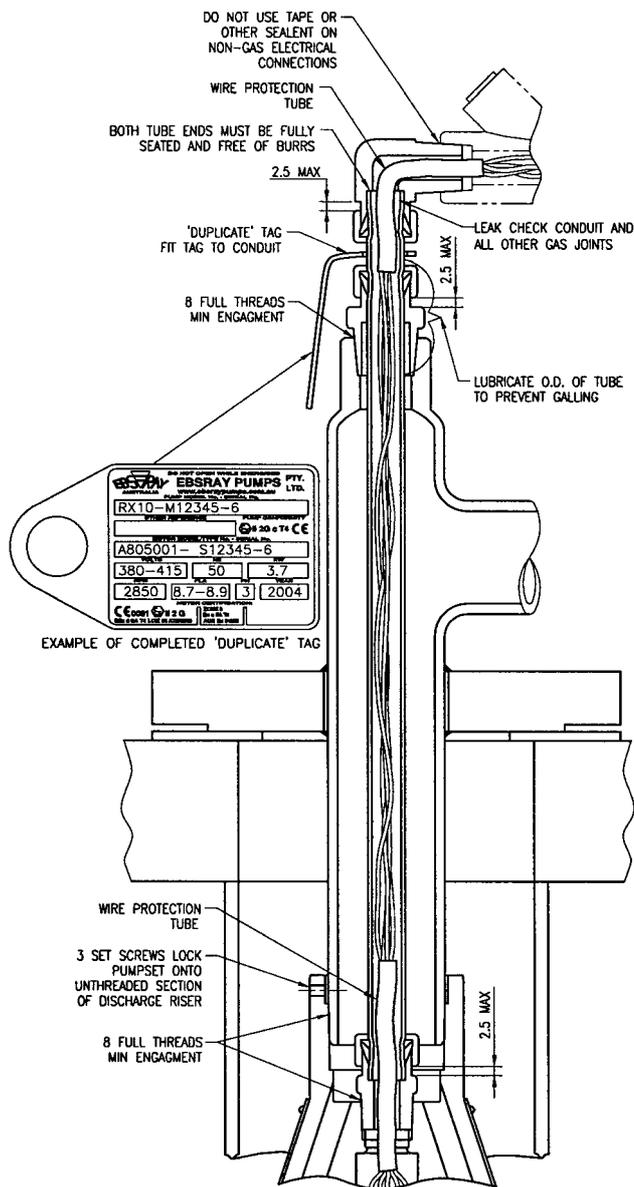

Figure 6
4. Fit conduit to compression tube fitting and tighten nut on fitting as shown in Figures 6 & 7 (2.5 mm hex key used as a no-go gauge which is approximately 1 3/4 turns after hand tight.) This connection **must** be gas-tight.
- b) Fit Differential Pressure Switch to Junction Box (For Junction Boxes which are not fitted with a 1/2" NPT(F) thread, use adaptor supplied) Take care when fitting to avoid damaging electrical leads.
- e) Fit 3/4" NPT compression tube fitting to 3/4"(F) NPT side of wiring seal.
20. Fit duplicate pumpset/motor identification tag over motor leads and over conduit as shown in figure 6
22. Slide wire protection tube half way into 3/4" NPT compression fitting. See figure 6